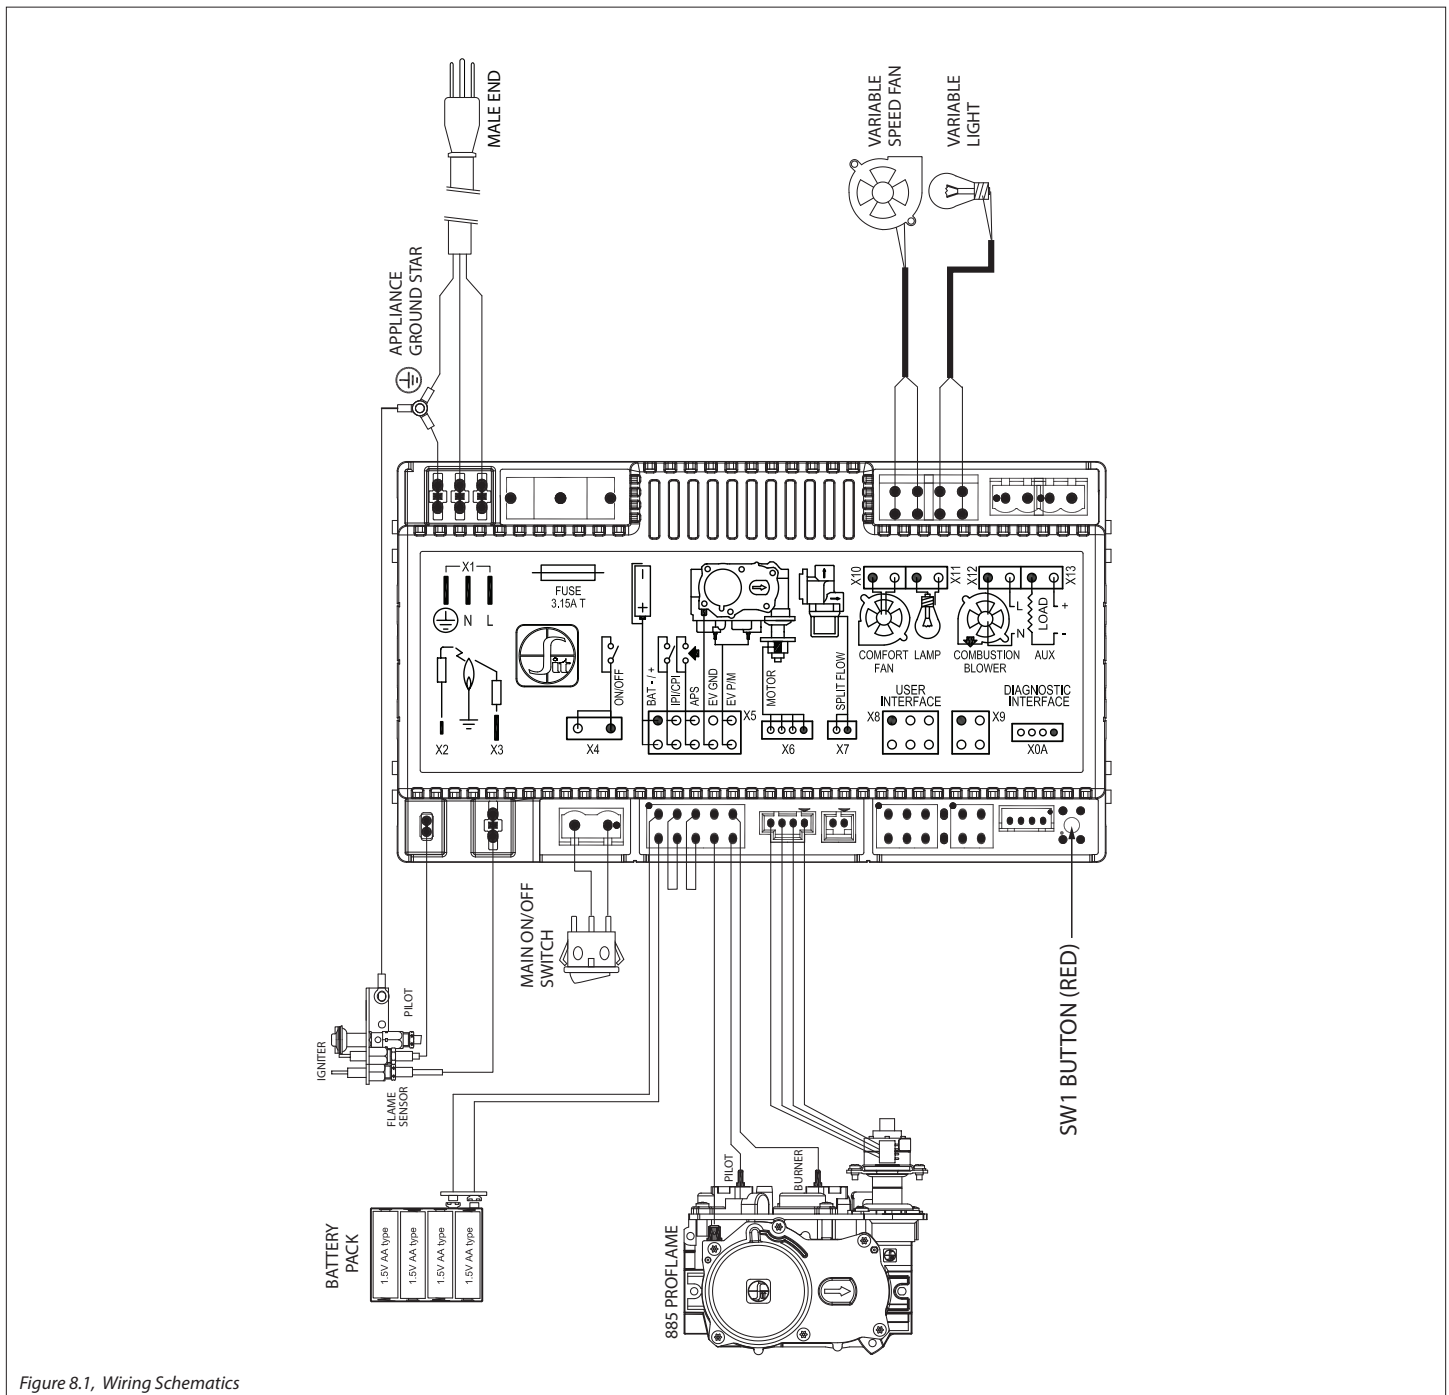

Figure 8.1, Wiring Schematics
1. Locate (4) mounting studs underneath the rear of the gas stove.
3. Align the (4) mounting slots in the fan bracket to the mounting studs under the firebox.
4. Lift up the fan and secure the fan assembly to the firebox with (4) flange nuts.
5. Connect the fan wires to the fan lead wires on the IFC module. See Figure 8.1 on the previous page.